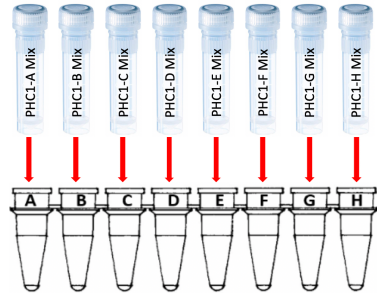

Figure 11.1. Aliquot HPV PHC1-A Mix – HPV PHC1-H Mix to an 8-strip PCR tubes.
- 1) From box 1, aliquot 59.8 µl of HPV PHC1-**A** Mix to the **first** tube of an 8-strip 200 µl PCR tubes, aliquot 59.8 µl of HPV PHC1-**B** Mix to the **second** tube of the 8-strip PCR tubes, and so on, and finally aliquot 59.8 µl of HPV PHC1-**H** Mix to the **last** tube of the 8-strip PCR tubes (Figure 11.1)